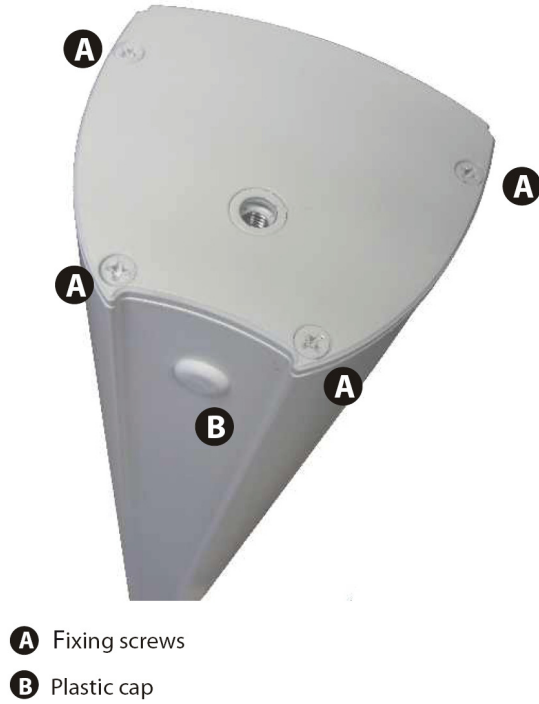

fig. 1
- 1) remove the screws (A) and the bottom cover (fig. 1);